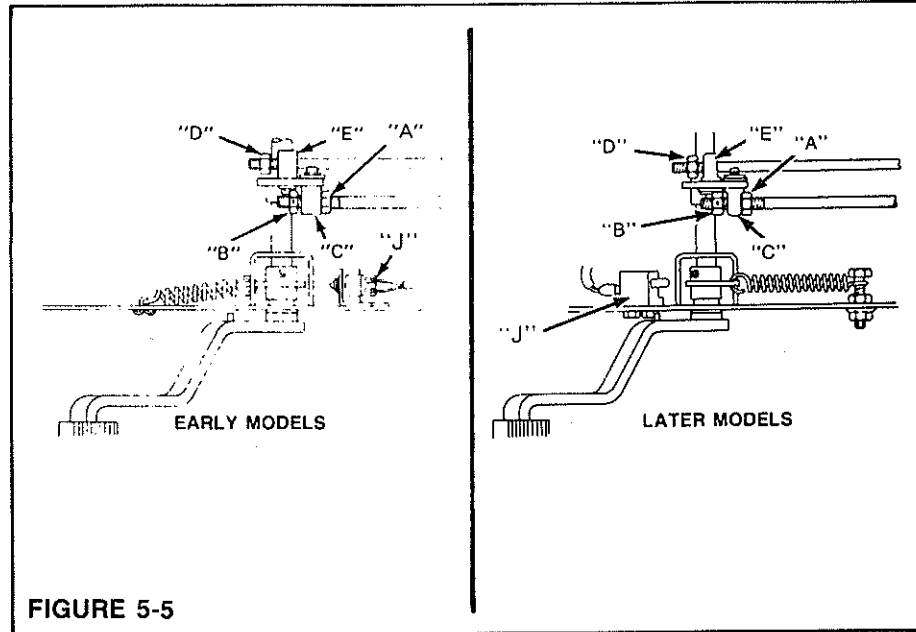

FIGURE 5-5
When foot pedal has fully returned to its upper position, screw on lock nut (C), Figure 5-5 till there is a gap of 1/8 inch (3 mm) between pivot (D) and lock nut (C).